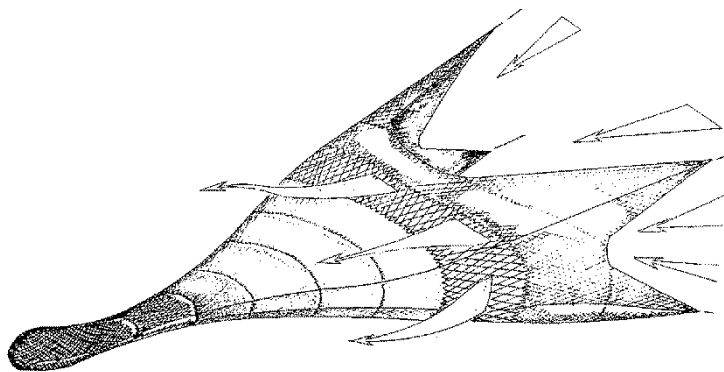

Figure 17. Blowout panels on a midwater trawl net.
**Blowout:** Generally made with a lighter material than the rest of the net, these net sections are used for maintaining the net's shape and stability as it is pulled through the water (see FIGURE 17). Seen in the pair trawl fisheries.